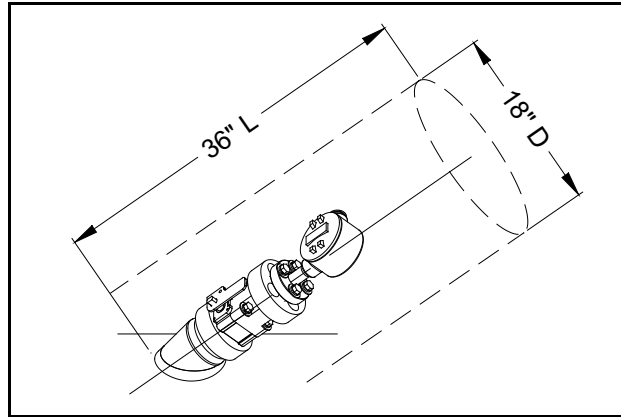

Figure 9: Insertion Mechanism Minimum Clearance
**IMPORTANT:** If a Transducer Insertion Mechanism is required, the recommended minimum clearance for transducer replacement is a space 18" in diameter by 36" long around each transducer (see Figure 9 below).